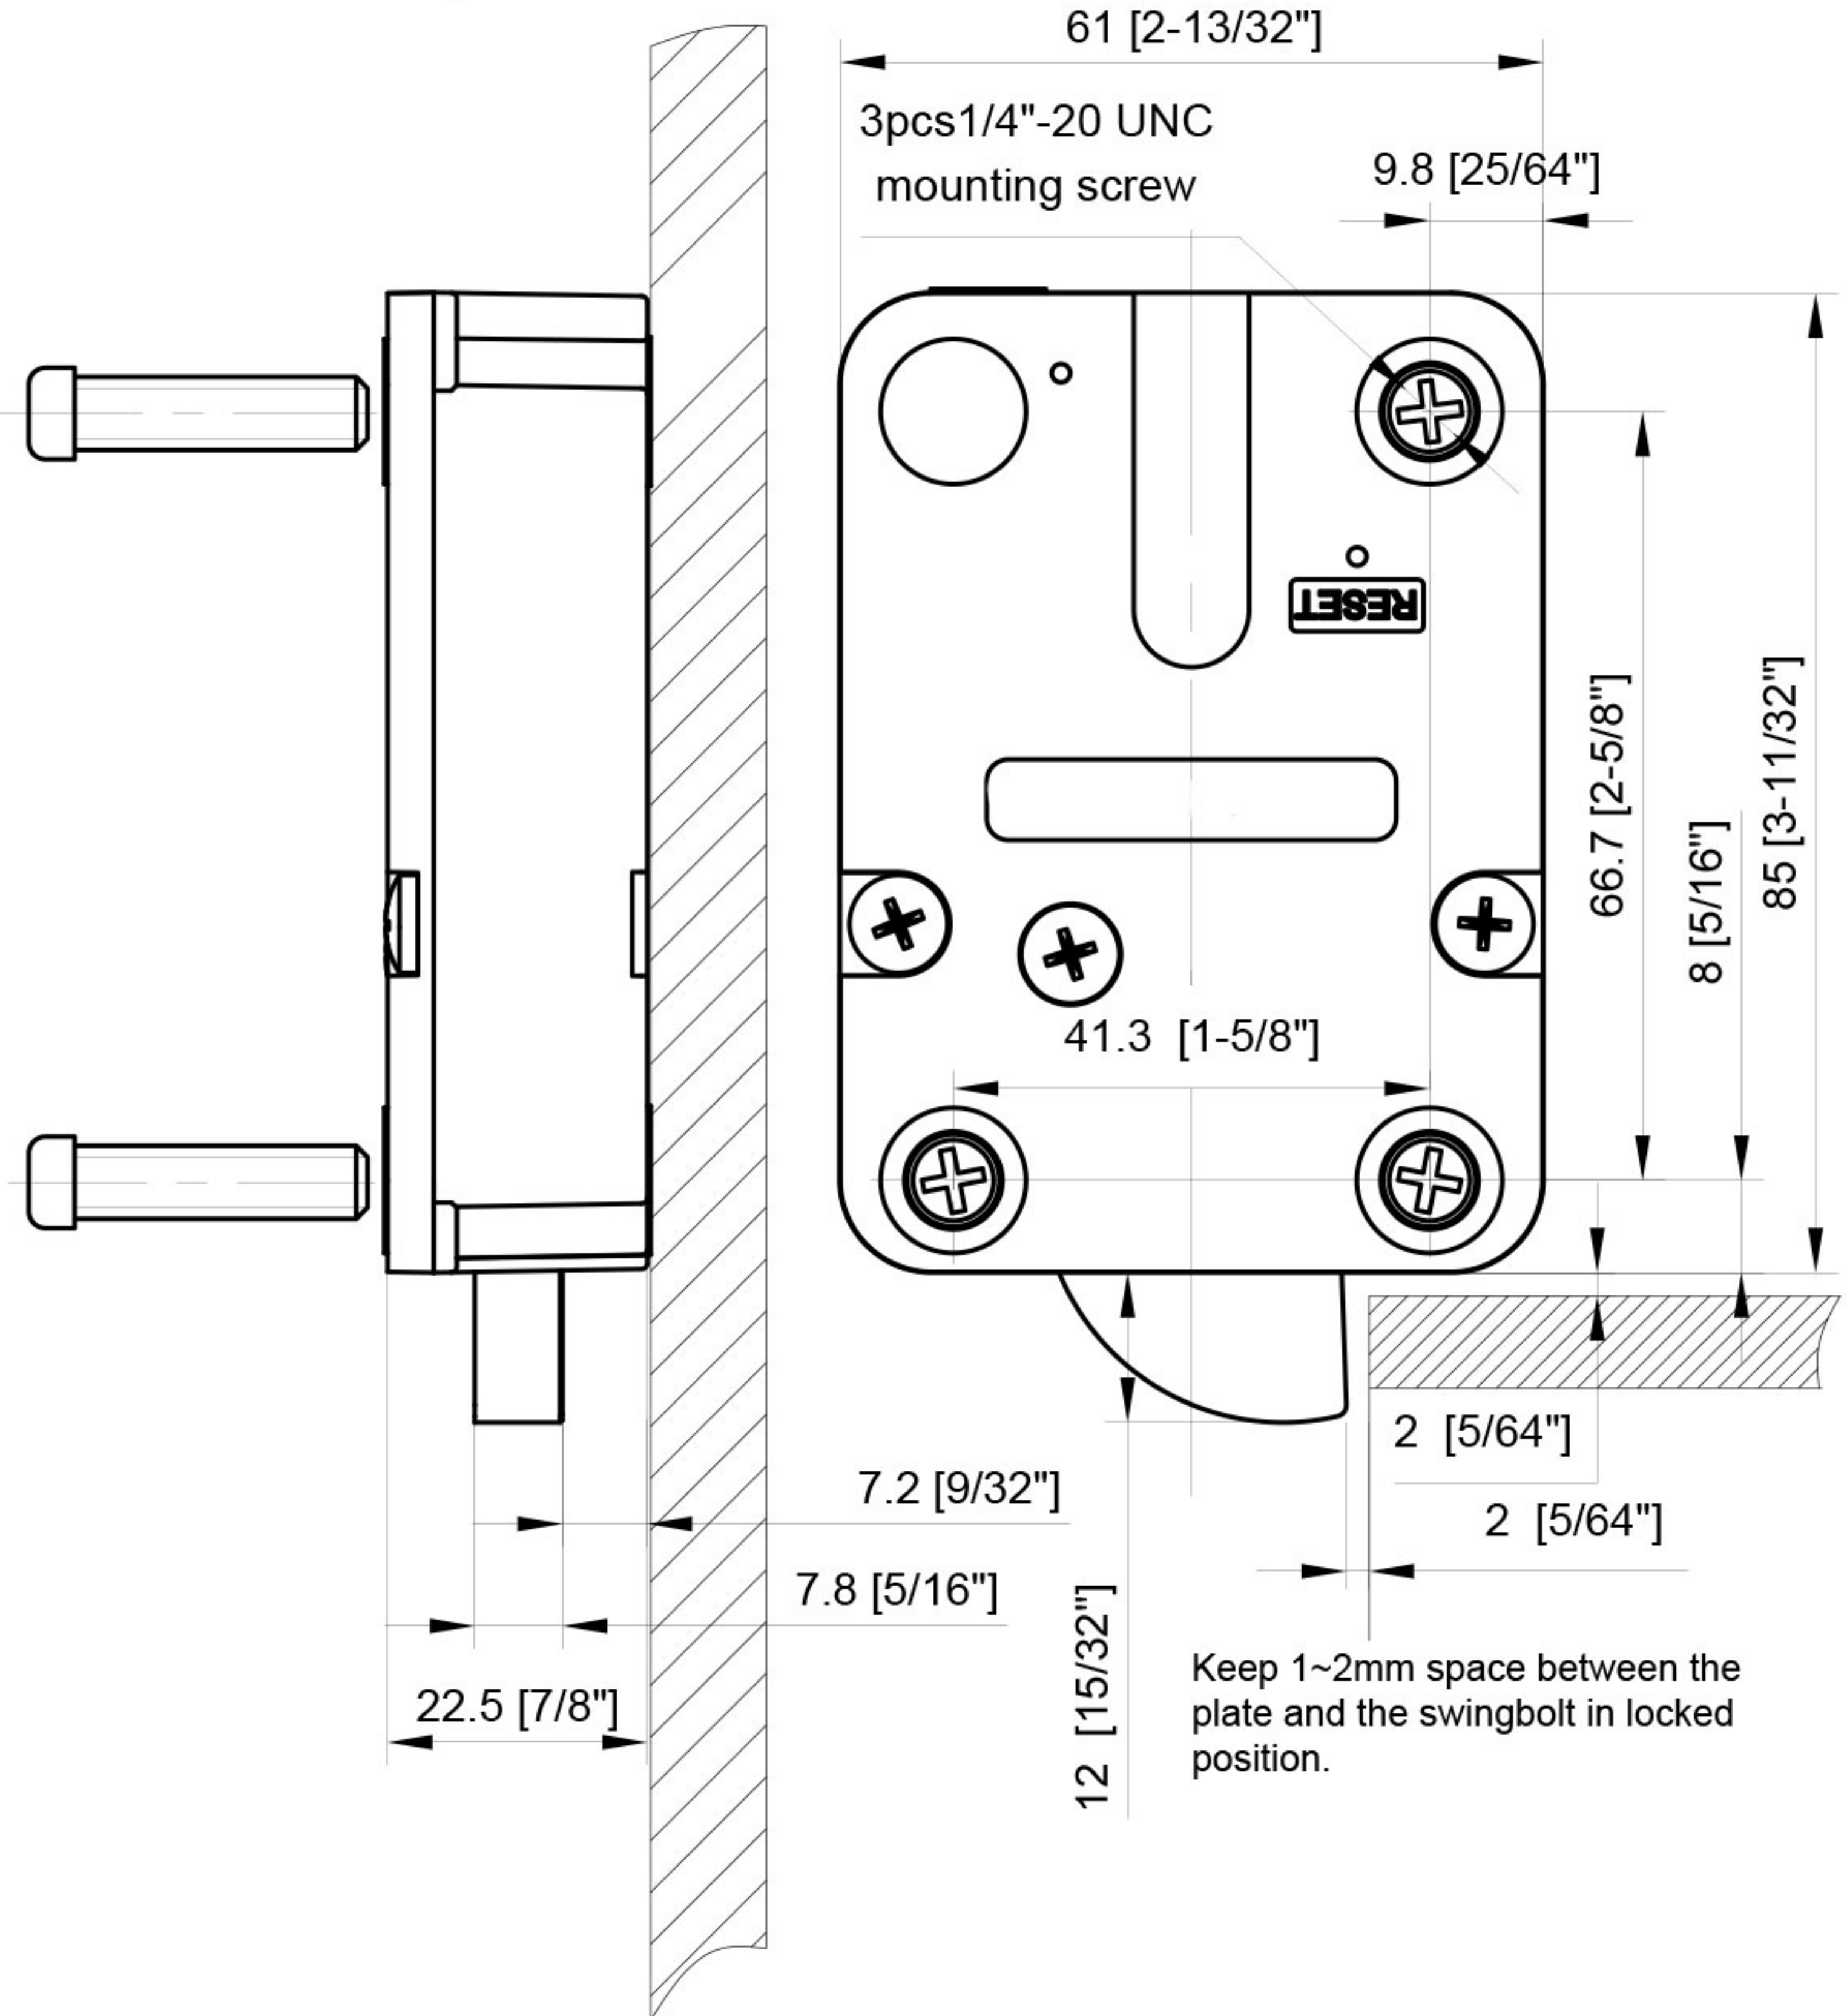
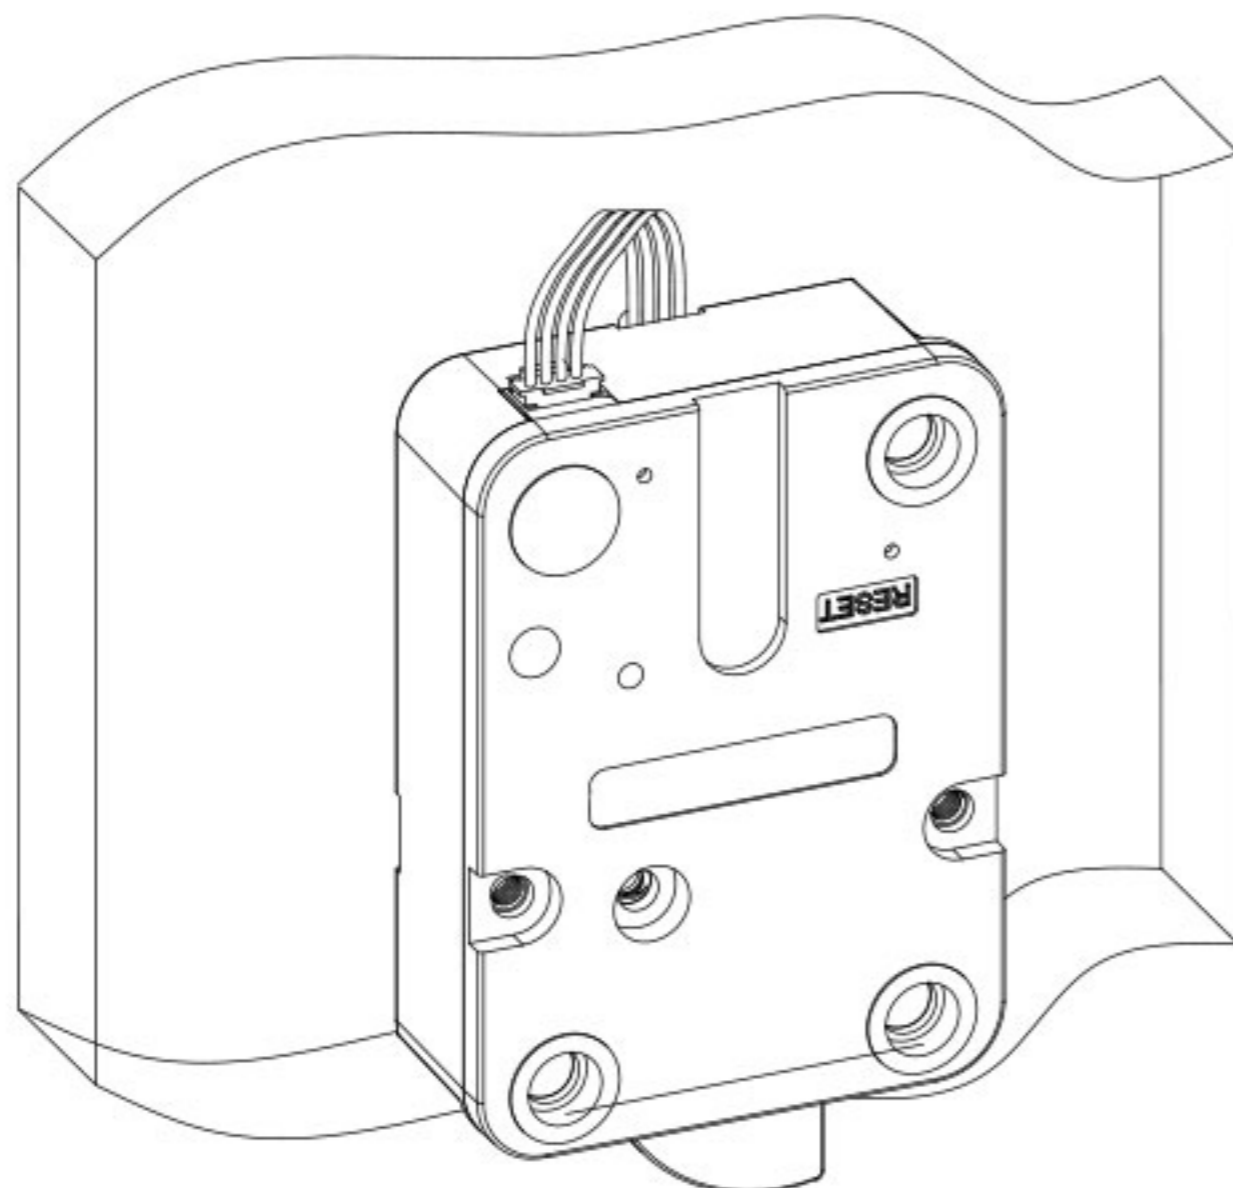

Fig. 9
Fig. 12
5. A minimum of 1-2mm of space is required between the flat end of the bolt and safe's blocking bar or cam plate when the safe's boltwork is in fully locked position. This is because of the depression on the bolt may not allow it to be retracted and may lead to inconsistent lock operations. (Fig. 9)
3. Use the three mounting screws provided by the factory to screw down the swingbolt actuator to the mounting plate. Make sure that the cable runs in the groove (Fig. 12). It is important to make sure there is a distance of 1-2mm between the flat end of the bolt and the safe's blocking bar or plate. (Fig. 9)
4. Press the connector into the socket on the swingbolt actuator. Make sure the connector is securely in place. (Fig. 12)
1. Dimensions of the bolt head: 12mm (Fig. 9)